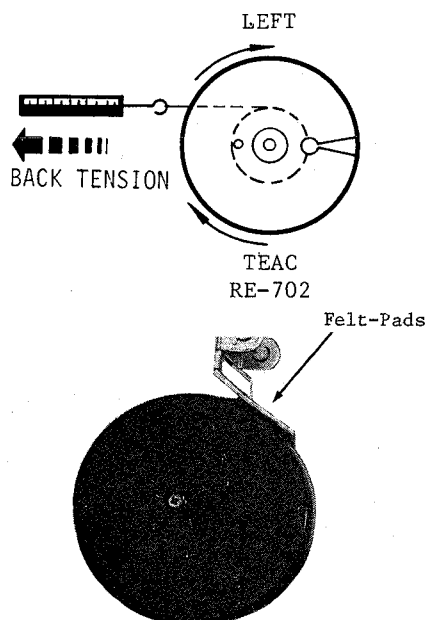

Fig. 6-4 Back Tension Measurement and Adjustment
4. If adjustment is required, bend the flat spring arms that are shown in Figure 6-4. These arms have square, felt-tip pads which contact the reel drum back-brake plate.